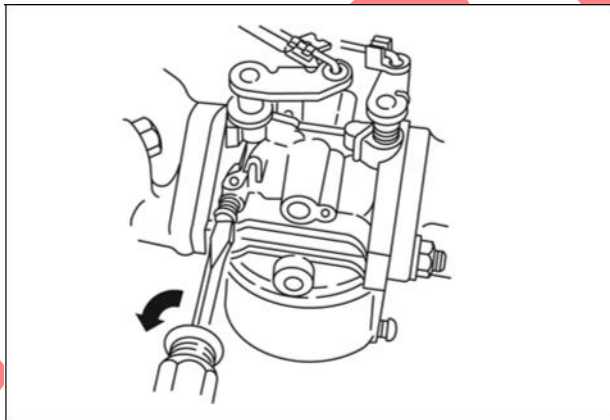

Figure 23
1. Turn idle mixture screw clockwise until it just seats. DO NOT FORCE. Turn screw counter-clockwise 1/2 turn (Figure 23). This setting will permit engine to start.